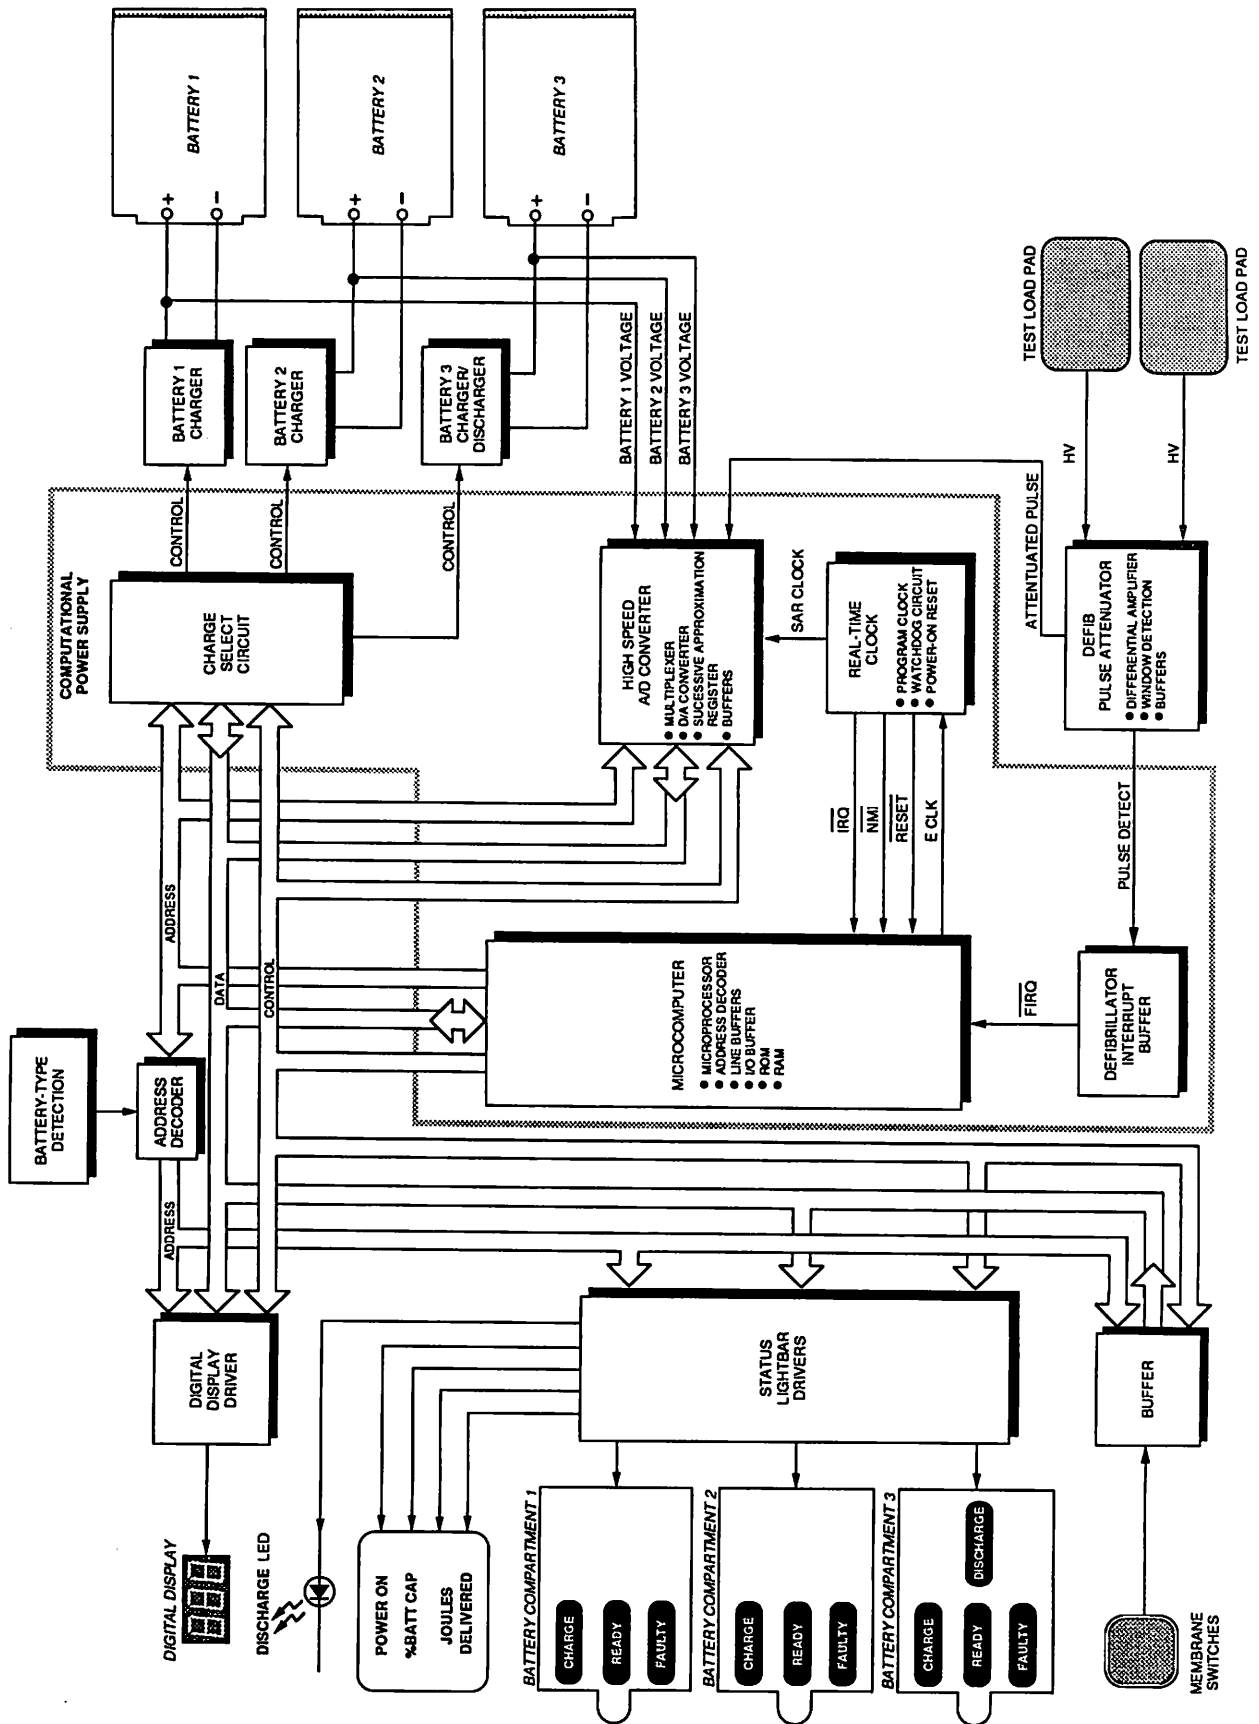

FIGURE 1-2. FUNCTIONAL BLOCK DIAGRAM
The Battery Support System consists of three printed circuit board (PCB) assemblies, the Computational Power Supply PCB Assembly, Defib Pulse Attenuator PCB Assembly, and the Switch Interface/Display PCB Assembly. This section contains a detailed description of the circuits found on these PCB assemblies. Schematic diagrams of the PCBs appear in Section 5. Refer to the schematics while reading the circuit descriptions. Section 6 contains additional information about selected ICs (indicated by a * on the schematic) to aid in circuit analysis and troubleshooting. Figure 1-2 provides a functional block diagram.
- 1-8. Microcomputer. (See Figures 1-2 and 5-4.) The microcomputer consists of microprocessor U4, RAM U12, ROM U11, and supporting circuitry. The functions and lines described are microprocessor timing, power-on reset, interrupt request, system bus control lines, address lines, and data bus.